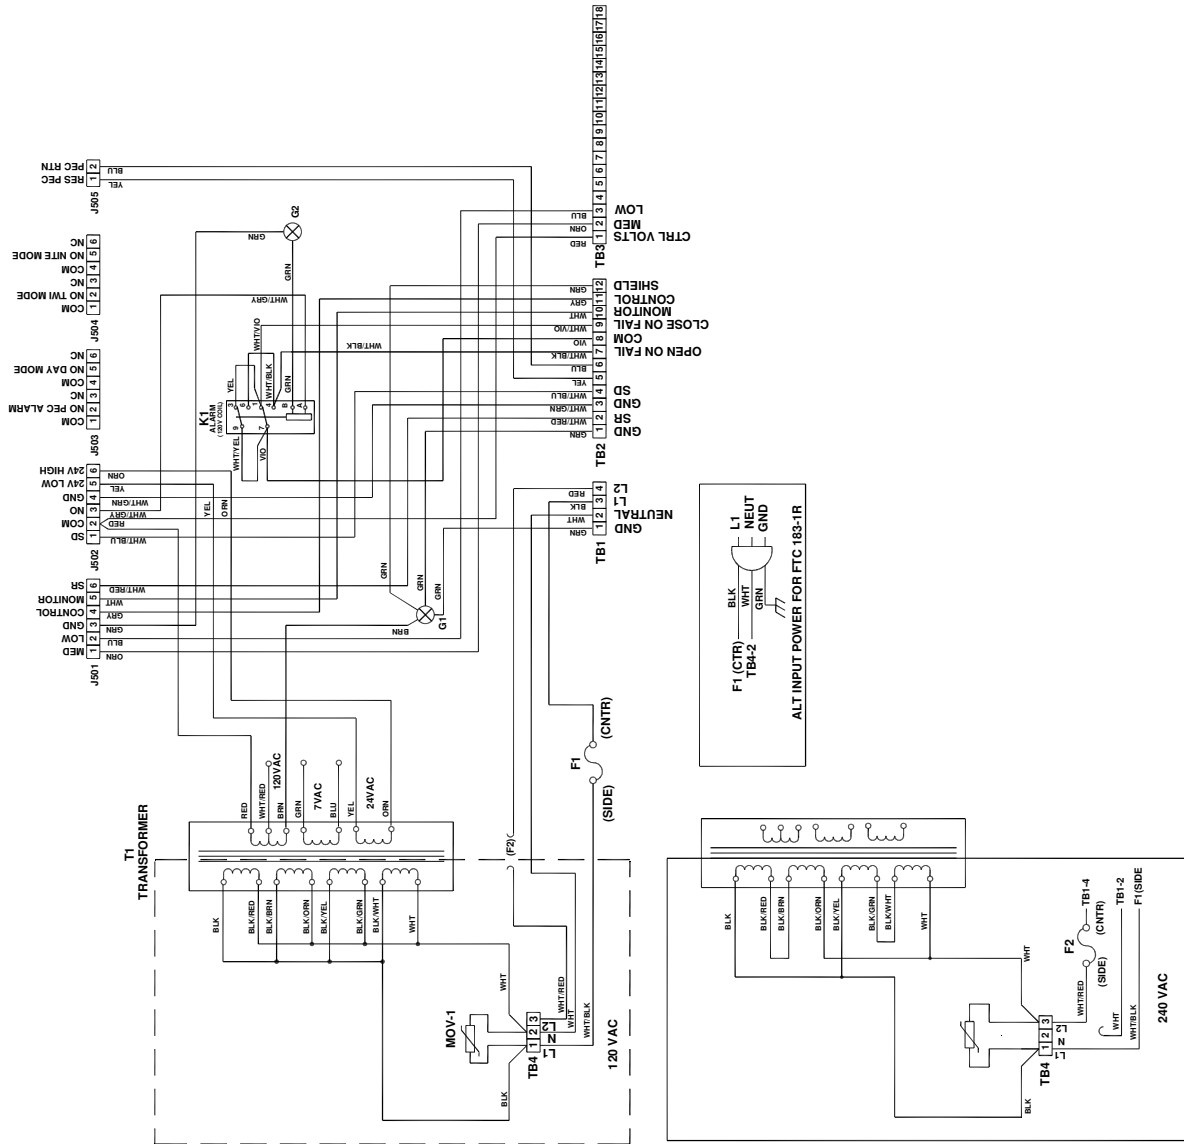

Figure 2-5 FTC 183-1 Controller Internal Wiring
1. Reverse the removal procedure. Refer to the internal wiring in Figure 2-5. Follow the color code exactly.